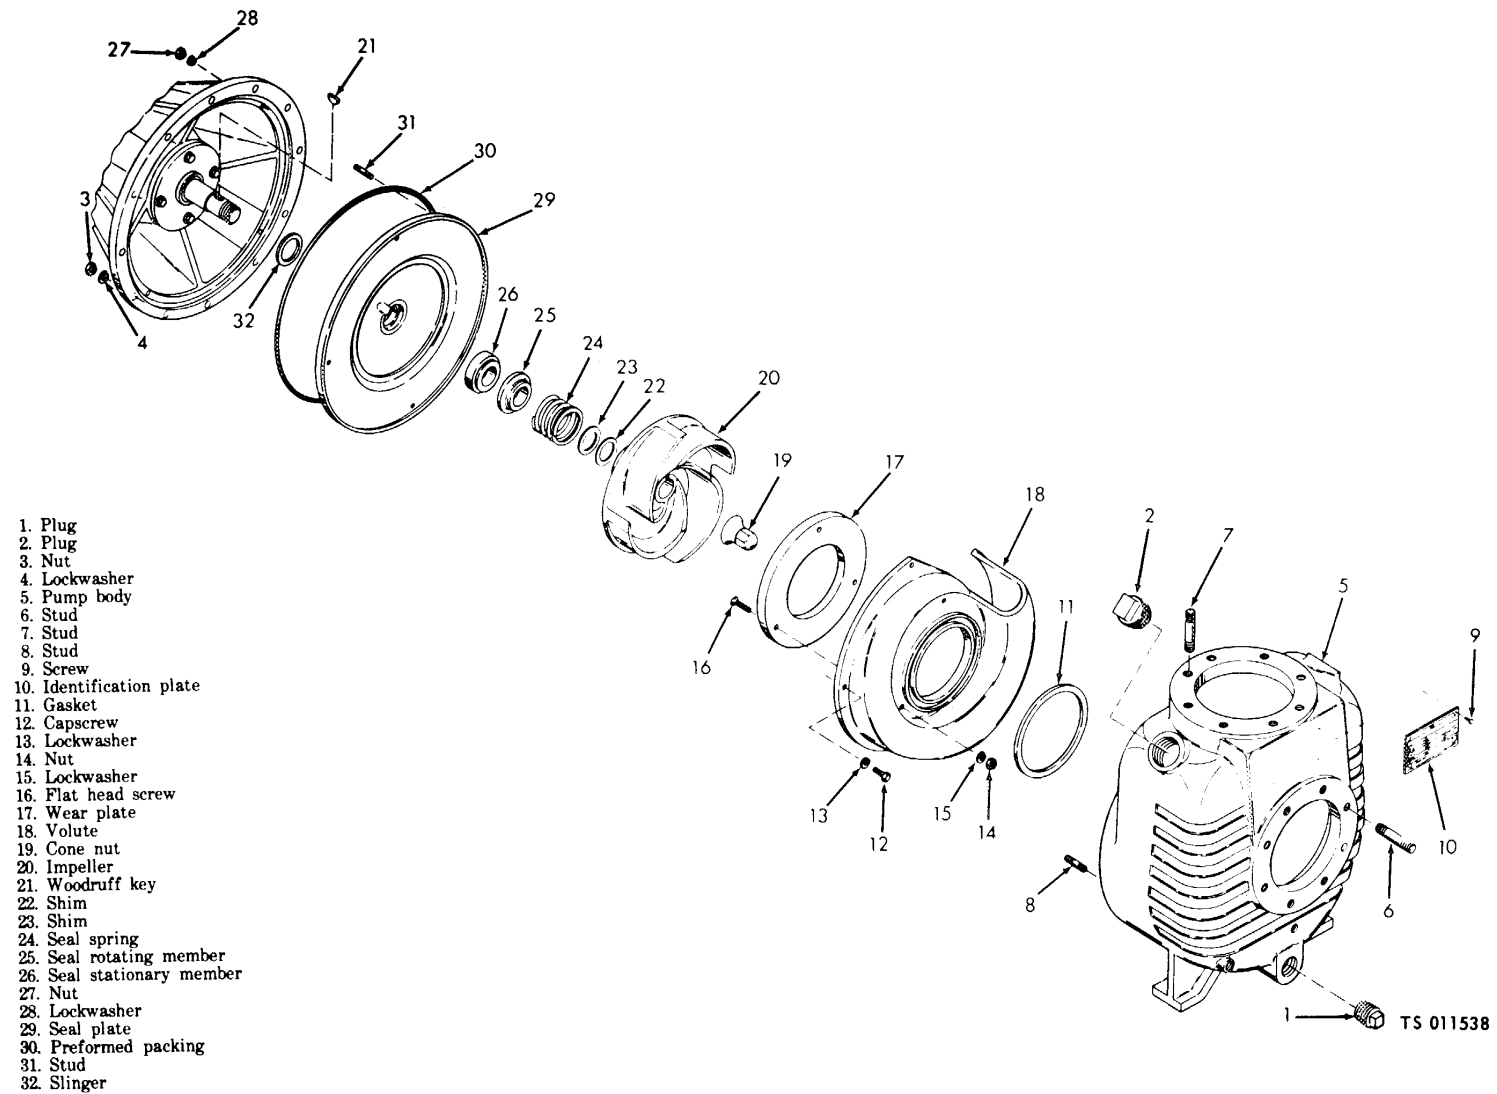

Figure 2-15. Centrifugal pump disassembly and reassembly.
- e. Disassemble the pump following the sequence of index numbers in figure 2-15.
- a. Insert a feeler gage into the front opening of the volute and measure from the face of the impeller (20, fig. 2-15) to the face of the wear plate (17).